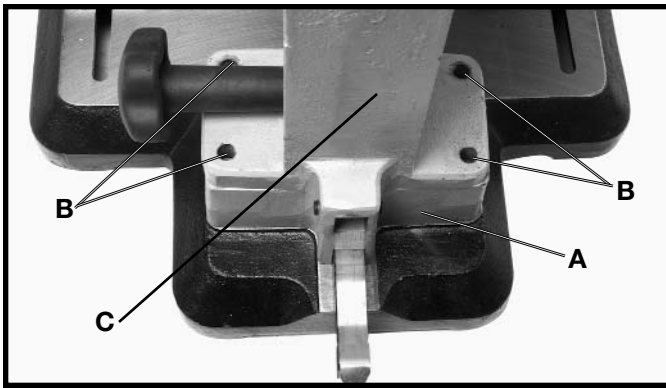

Fig. 18
5. Place the column assembly (C) Fig. 18, on top of the column extension (A) and align the four holes (B) in the column assembly with the four holes in the column extension (A).